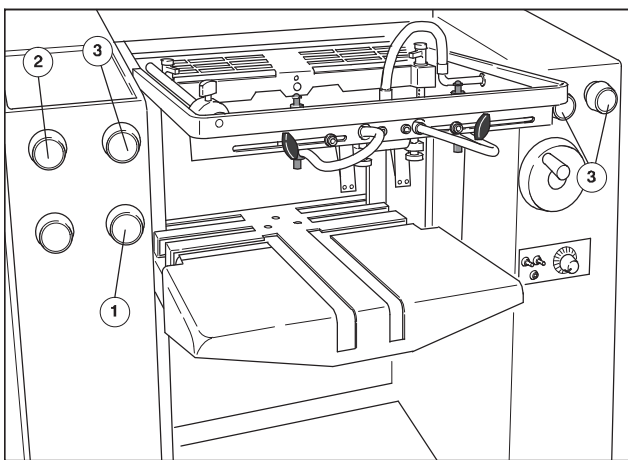

Fig. 49 Adjustment of blast air/suction air
2. **Pile height:** Turn the control knob for the pile height (Fig. 49/1) to the right up to the stop (maximum pile height).
3. Set the control knobs for blast air (Fig. 49/3) and suction air (Fig. 49/2) both to their maximum value.